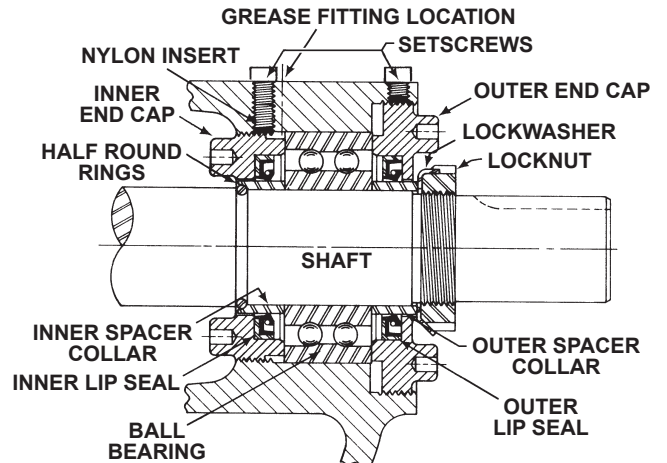

FIGURE 8
5. Drive the shaft forward approximately 1/2" and remove the pair of half round rings ("K" - "LL" size) under the inner bearing spacer collar or a snap ring ("HL" size) at the end of the inner bearing spacer collar, see figure 8.
7. Loosen the four setscrews over the outer and inner end caps. Remove both end caps, ball bearing, and bearing spacer collars. See figure 8.